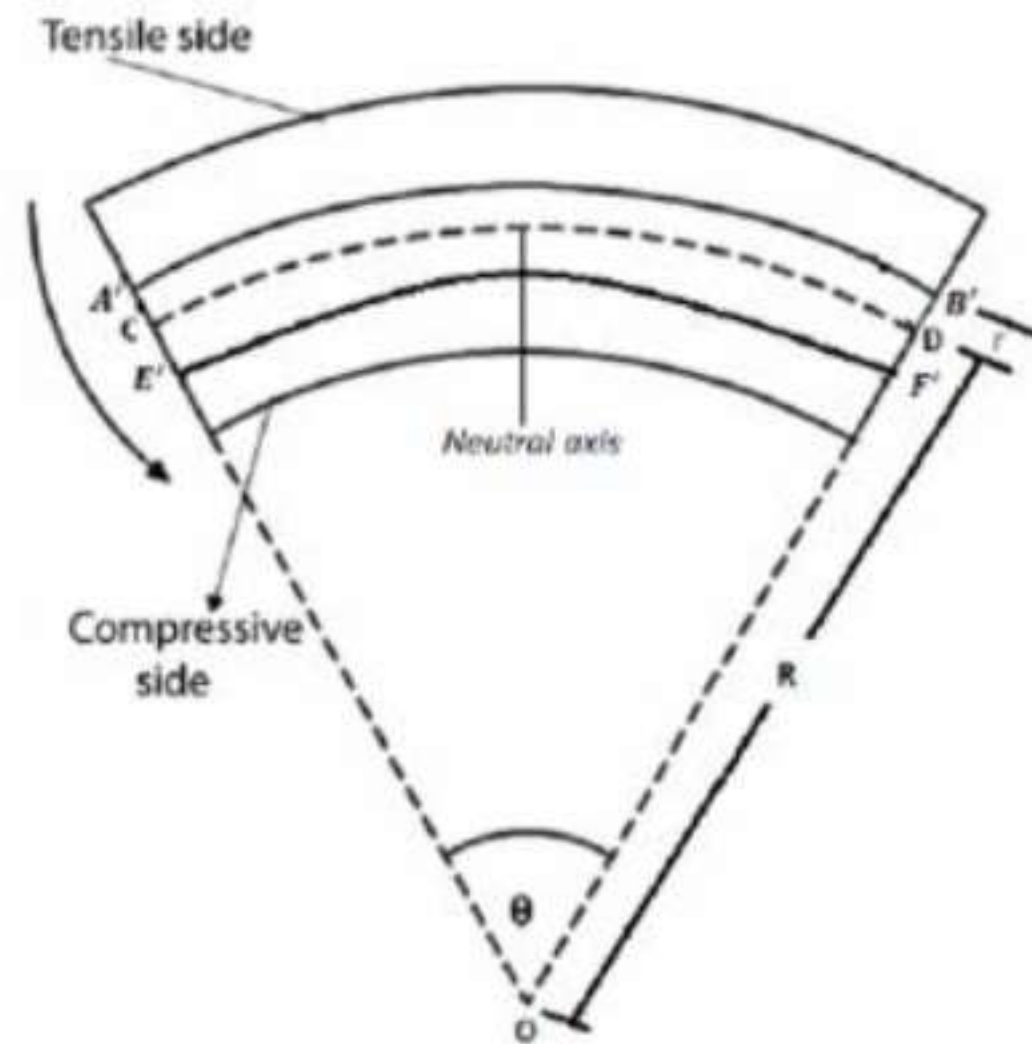

Figure 3.7: Sectional View of the Beam
**Introduction :** Consider a beam of uniform cross-section. Consider three layers  $AB$ ,  $CD$  and  $EF$  be three layers. Before applying the load  $AB = CD = EF$ . The beam bent by applying load and is as shown in the figure 3.7. On bending  $AB$  extends to  $A'B'$  and  $EF$  contracts to  $E'F'$ . The layer  $CD$  is the neutral surface. The length  $CD$  forms an arc of a circle of radius  $R$  and subtends an angle  $\theta$  at the center. The layer  $A'B'$  is concentric to  $CD$  with radius  $R + r$ .